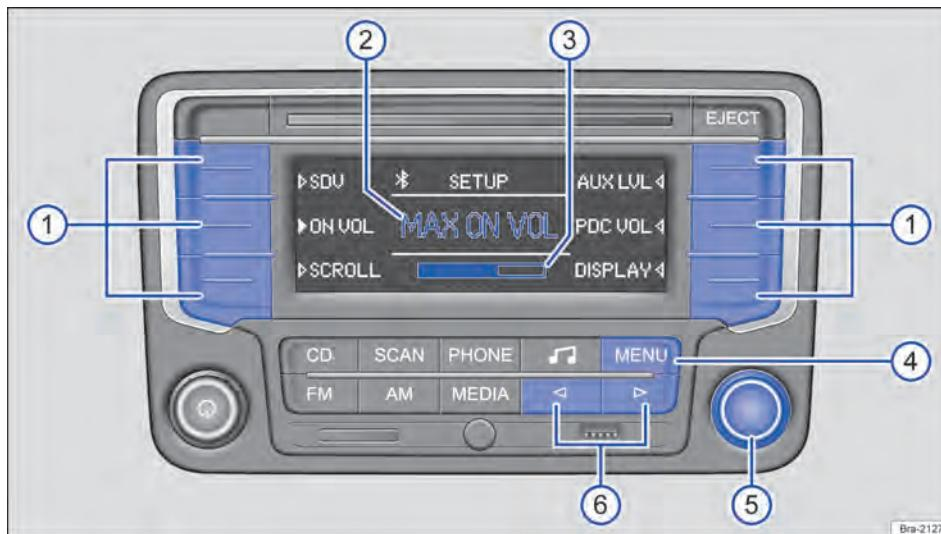

Fig. 150 SETUP menu: set the on volume.
- Press the unit button **[MENU]** from any menu → Fig. 150 ④.
- Press the function buttons to open the respective settings menu → Fig. 150 ①.
- Turn the setting knob to change current settings → Fig. 150 ⑤.
- **OR:** briefly press the unit button **[◀]** or **[▶]** to change the current settings → Fig. 150 ⑥.
- **OR:** if the unit button **[MENU]** → Fig. 150 ④ is briefly pressed.
MAX ON VOL → **Fig. 150 ②** is displayed on the centre of the screen, and the volume bar is displayed directly underneath → **Fig. 150 ③**.